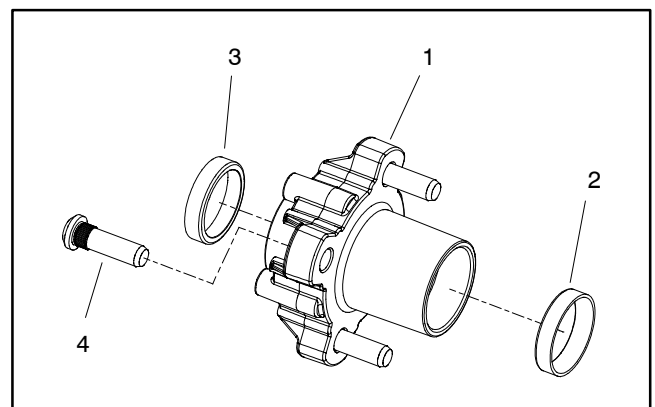

Figure 11
9. If necessary, separate brake rotor from wheel hub by removing four (4) socket head screws.
10. If necessary, press wheel studs from wheel hub (Fig. 11).
1. If brake rotor was removed from wheel hub, place rotor on hub and secure with four (4) socket head screws. Torque screws from **9 to 11 ft-lb (13 to 14 N-m)**.
2. If any wheel studs were removed from wheel hub, use a press to install new studs into hub (Fig. 11). Make sure that stud shoulder is fully pressed against housing surface.
3. If bearing cups were removed from the wheel hub, press new cups into the hub until they seat against the shoulder of the hub (Fig. 11).